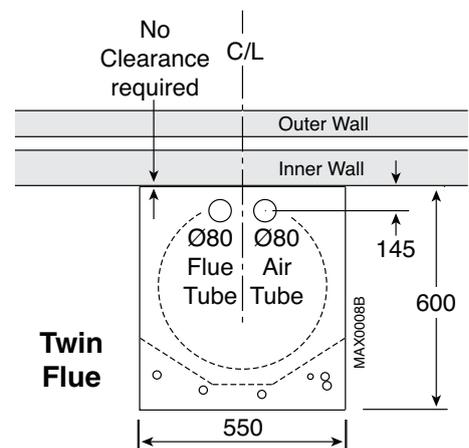

Fig. 3
2. Minimum clearances are indicated in Fig.3. A full height compartment door must be at least 15 mm from the front of the boiler and provide 200 mm access height above the boiler.
Detailed recommendations for flueing are given in BS5440: Part 1. The following notes give general guidance. The horizontal balanced flue terminal must be installed so that it is exposed to external air, preferably on a clear expanse of wall. Acceptable positions are indicated in Fig. 3. Avoid positions where the terminal is adjacent to projections; particularly immediately under a balcony, inside a re-entrant position, or immediately adjacent to a drain pipe. If the boiler is fitted under a ventilator or opening window, the terminal must be at least 300 mm from any part of the window or ventilator and in accordance with BS5440: Part 1.